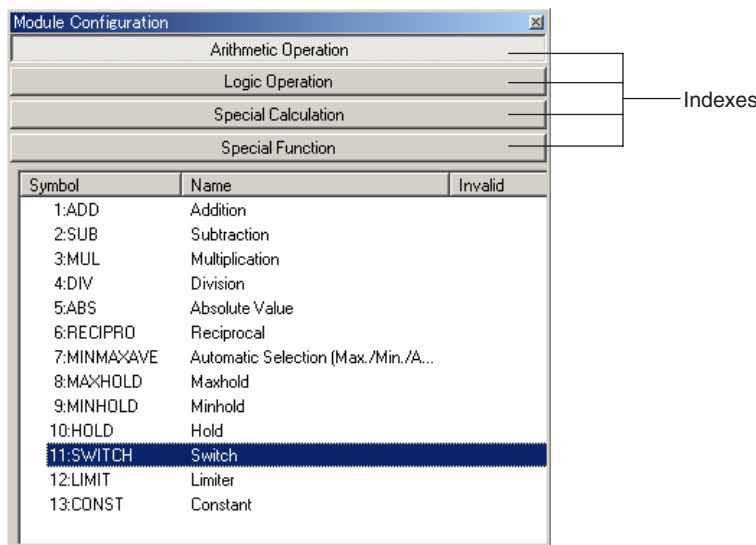

Figure 12.3.2 [Module Configuration] Dialog Box
- (1) Configure custom computations as per Section 12.1, “Example 1: Applying Corrective Computation to the PV Input.”
- (2) In the [Input Block] dialog box (Figure 12.1.15), double-click a blank box. The [Module Configuration] dialog box (Figure 12.3.2) appears.